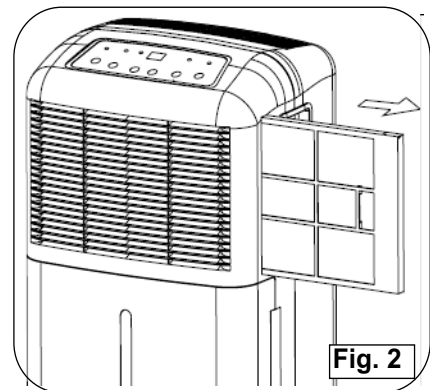

Fig. 2
- 1) Grasp the filter handle, and pull the filter out. The filter will slide out easily (see Fig. 2)